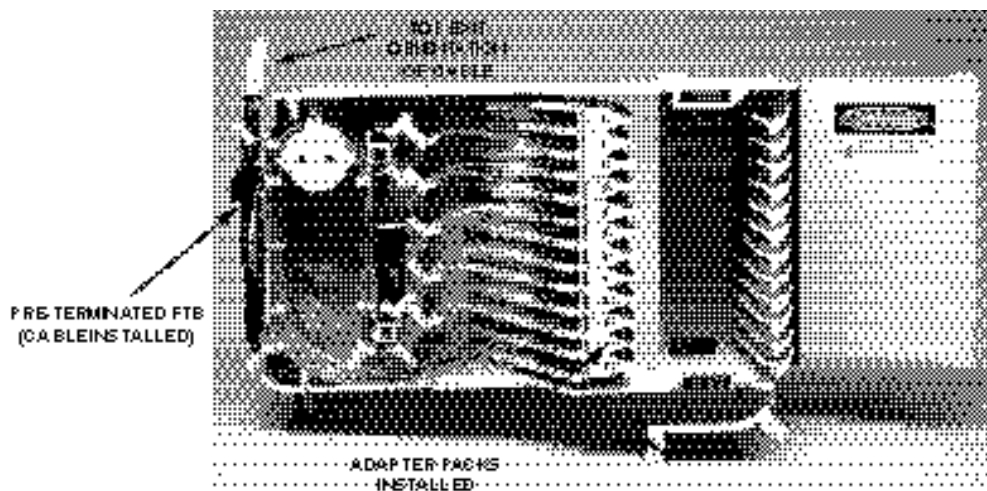

Figure 3. Pre-Terminated FTB
- The FTB may be ordered in either a pre-terminated or adapter only version. In the pre-terminated version, shown in Figure 3, the FTB includes an installed OSP or IFC cable. One end of the cable is connected to the rear side of the adapters within the FTB. The other end of the OSP/IFC cable is coiled on a spool. At the job site, the free end of the OSP/IFC cable must be uncoiled from the spool and then routed to another location for splicing or connection to the OSP or FOT equipment circuits. In the adapter only version, the FTB does not include an OSP or IFC cable. Adapter only blocks are designed for terminating FOT equipment patch cords. To use an adapter only block with OSP or IFC cable, a conversion kit is required.